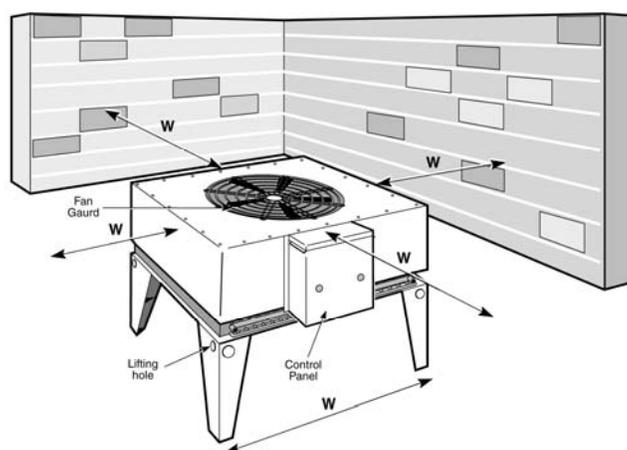

Figure 6 – Typical Outdoor Condenser Installation
- Ensure the unit has proper airflow per Figure 6. A perimeter of free area equal to its width must be provided.
- Contact Seresco if the condenser is installed more than eight (8) feet below the dehumidifier.